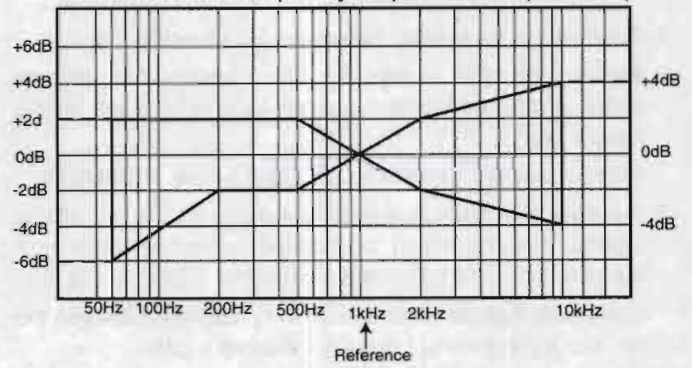

Fig. 10
3. Playback the recorded signals to confirm that the output is within the range of the overall frequency response shown in Fig. 10.